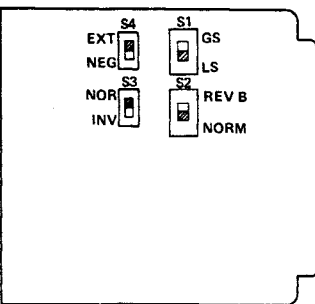

figure 5. 6113 option switch locations
3.05 No alignment of the 6113 module is required. However, four option switches must be set before the 6113 is placed into service. These switches and their functions are described in paragraphs 3.06 through 3.09. Figure 5 shows the locations of these switches on the module's printed circuit board.